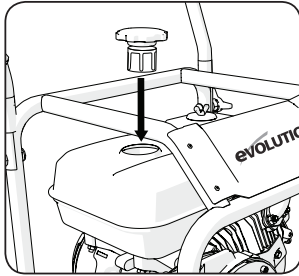

Fig 23
- When refitting ensure that the 2 cut outs on the top edge of the filter line up with the cut outs in the fuel tank filler neck. (Fig. 23)